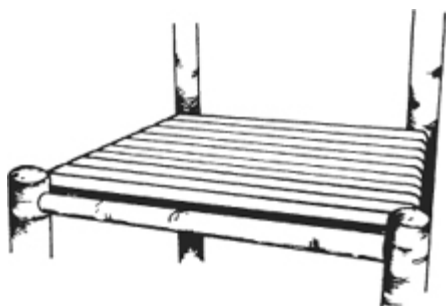

fig. 25
6. Continue wrapping both side rails, moving back and forth until you reach the end of the strand. The warp strands should be straight and firm but not too tight, as they will shrink as they dry. Refer to Figure 25. To add new splint, clamp the last wrap in place, overlap the two ends underneath the seat and staple the two ends together with four or five staples. The warp strands are always put on first, no matter which way they run on the chair.